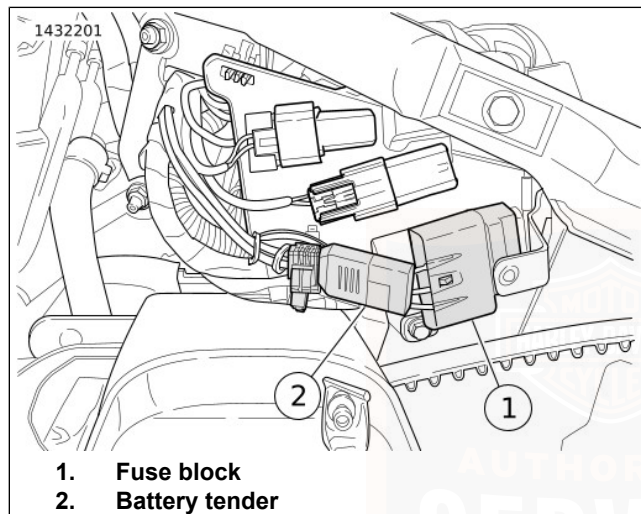
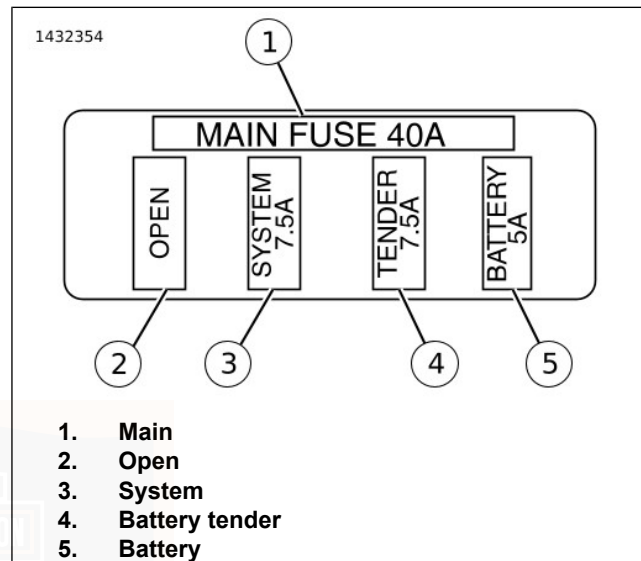

Figure 88. Fuses
Figure 89. Fuse Block
3. See Figure 88 and Figure 89. Remove fuse block from caddy on motorcycle.